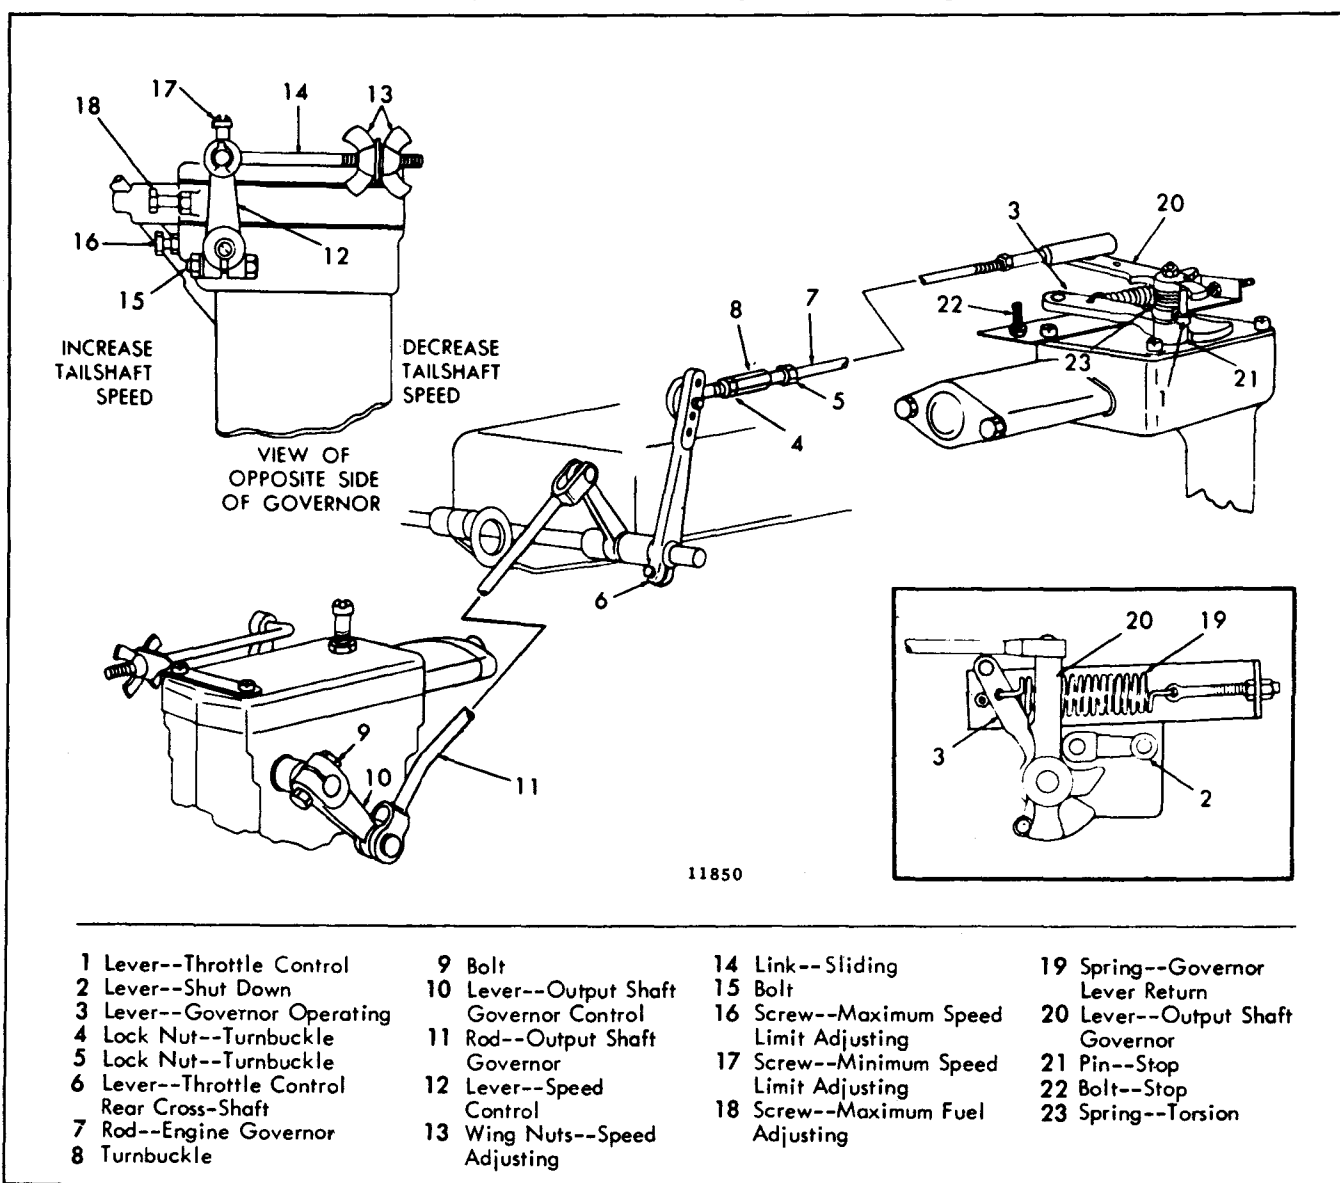

FIG. 1 - Hydraulic Output Shaft Governor and Linkage (Type A)
The output shaft governor is connected to the engine governor by control rods and levers (Figs. 1 and 2). The control rod end ball joints are sealed assemblies and do not require lubrication. However, the throttle control shaft bearings should be lubricated periodically with all purpose grease through the grease
In some types of operation, such as laying of structural steel, it is desirable to operate the unit with a very low output shaft speed. This speed could be so low that the output shaft governor ball head assembly would not actuate the governor pilot valve and spring seat assembly. In such applications, the engine governor operating lever (6), Fig. 1, or the remote throttle control lever (1), Fig. 2, used as an overrule lever, can be moved toward the idle speed position sufficiently to provide the desired low output shaft speed. Output shaft speeds down to zero can be obtained through this type of engine governor control. The engine governor would maintain control unless the output shaft speed increased to the speed setting of the output shaft governor.
#### Adjustments (Type A - Fig. 1)
The engine governor throttle control lever (Fig. 1) is pinned to the throttle shaft. The engine governor operating lever is mounted below the throttle control lever and rides on the throttle shaft boss on the governor cover. The output shaft governor lever is mounted above the throttle control lever and is retained on the shaft by a snap ring. A stop pin, pressed into the throttle control lever, transmits movement of the output shaft governor lever and/or engine governor operating lever through the throttle control lever to the injector racks. The torsion spring, used to retain the throttle control lever stop pin against the output shaft governor lever, yields to permit the governor operating lever to move the throttle control lever toward the idle position, regardless of the position of the output shaft governor control lever. A slot in the underside of the governor cover hub limits the travel of the throttle control lever in both the maximum and minimum speed positions.
1. Connect the linkage to the governor operating lever (Fig. 1) and check the total travel of the lever. The lever should move to the stop bolt in one direction and the governor lever return spring should move the lever, in the other direction, until the throttle control lever reaches the end of its travel.